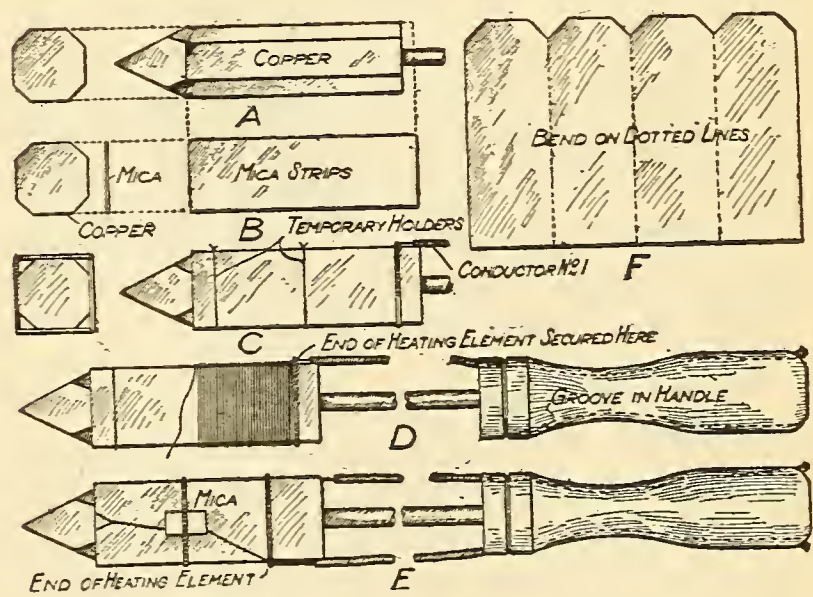
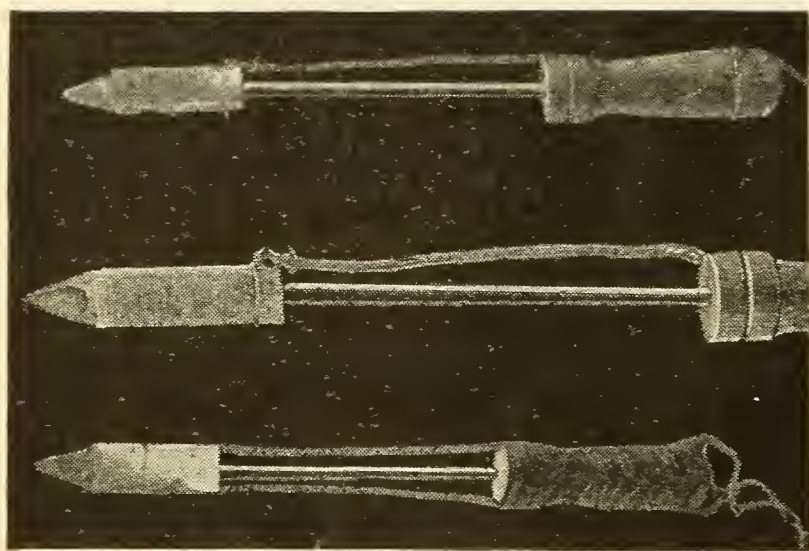

FIG. 1
FIG. 2
long and one inch thick, with beveled corners, as shown in Fig. 1 at (A).
Sheet mica is used for insulation. Asbestos is temporarily satisfactory, but in time it disintegrates. Four strips are cut as shown at (B), Fig. 1. These four mica strips are applied to the copper as shown at (C), just as though the copper were rectangular instead of octagonal. The pieces of mica are held in place temporarily with two pieces of soft copper wire as shown.
double cotton covered copper wire about No. 16 gauge will be required. These should be about eighteen inches in length, and the insulation should be removed from one end of each piece for about five inches. The bare end of one is now twisted around over the mica, as shown at (C), Fig. 1. The wire bound around the wooden handle to hold the conducting leads should be removed and two grooves cut on opposite sides for these leads as
shown at (D). The copper with the mica insulation in place ready for winding is shown in Fig. 2.
The seventeen feet can be wound in one layer. The second illustration, Fig. 2, shows the winding completed. The loose end of the heater wire should be secured so that the coils will not unwind. If German silver wire is used, several layers will be required. Between layers, mica insulation strips should be placed, just as between the first layer of wire and the copper.
If the wire has been applied in one layer, follow the winding from one end to the other, making sure that no two adjacent turns come into contact with one another. Then prepare four strips of mica, as shown in Fig. 1, (E), and fasten them in place over the heating
prepared. Another layer of mica strips should be applied. Over this a layer of asbestos paper is placed and bound on with a layer of bare copper wire, about No. 20. This will make a very satisfactory covering, but the appearance of the iron will be much improved by a sheet iron housing made as shown in Fig. 1 (F) and bound in place with a single turn of wire, as shown by the finished iron in the lowest illustration, Fig. 2.